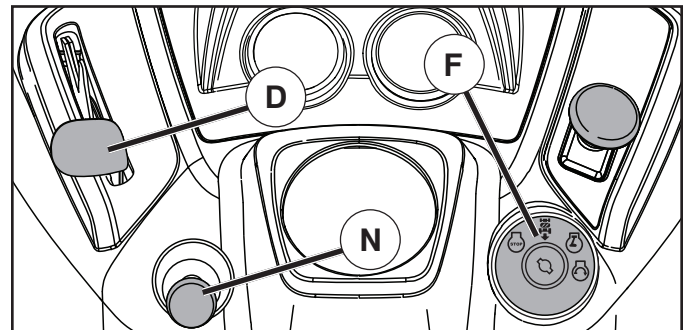

Fig. 23
TO USE THROTTLE CONTROL (D) (See Fig. 23)
TO USE CHOKE CONTROL (N) (See Fig. 23)